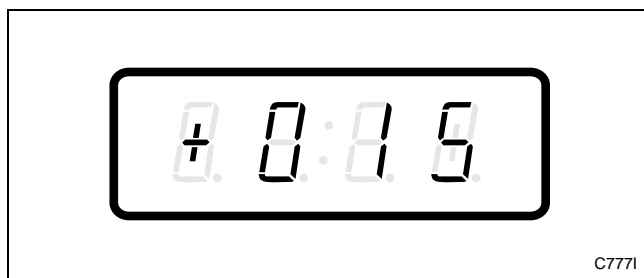

Figure 39
- Press the DELICATES (+) or the COLD (-) keypad to scroll through the programmable options until “+015” appears in the VFD. Refer to *Figure 39*.